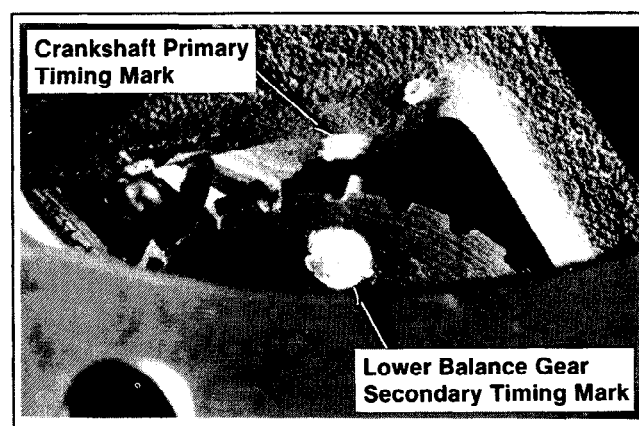

Figure 12-23. Crankshaft Gear/Lower Balance Gear Alignment.
- The primary timing mark on crankshaft should align with the secondary timing mark on lower balance gear. Refer to Figure 12-23.